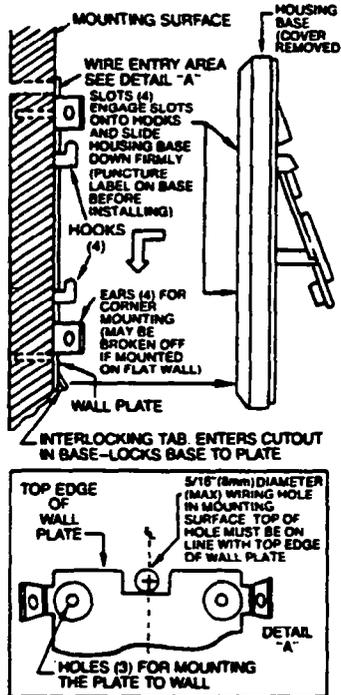

Fig. 3
2. Mount the wall plate to a firm vertical surface (flat wall or in corner). Position the plate so that field wiring is centered in the rectangular slot at the top of the plate (wall wiring hole no larger than 5/16" diameter). See Figure 3 and Detail A.
4. Attach unit to wall plate by engaging all four hooks on the plate into slots on the rear of the base and by pressing downward (see Fig. 3). The wall plate hooks will puncture the label on the back of the base.
NOTE 1: The PIR is locked to the wall plate by a spring tab that engages a square opening in the housing base (see Fig. 3). The PIR can only be removed by cover removal, depression of the